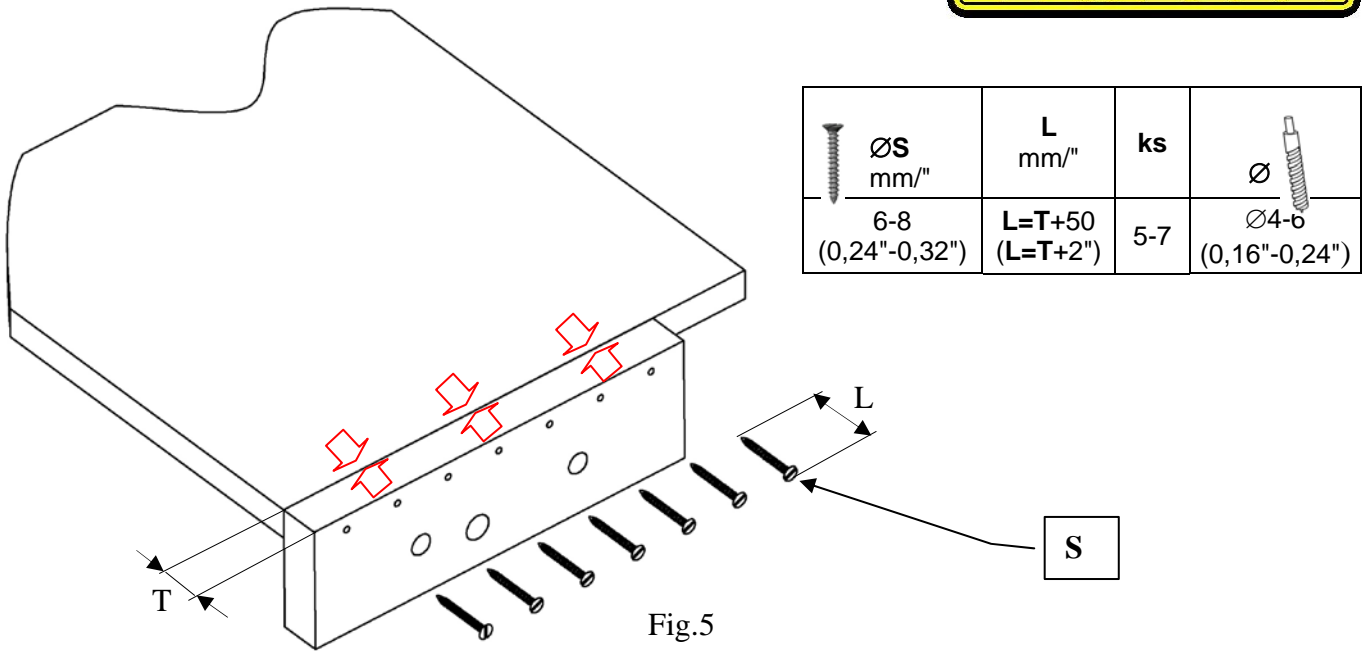

Fig.5
a) If the workbench has no collar and we use an additional rear jaw by fixing it to the relevant position on the front edge of the workbench. The number and size of screws must be adequate to the additional rear jaw size. The presumed number of wood screws is 5-7,  $\varnothing$  **6–8mm (0,24"–0,32")**. Fix the rear jaw so that the top edge is flush with the top of the workbench board. If the workbench has a collar, drill holes for the spindle (3) and guide rods (5) directly into the collar. See Fig. 5.